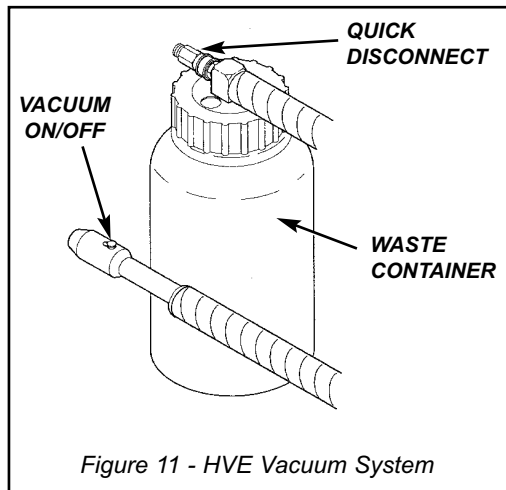

Figure 11 - HVE Vacuum System
- 8. AA-21 HIGH VOLUME EVACUATOR ASSEMBLY** - The HVE assembly is an air powered, self contained oral evacuator system. It is supplied with a plastic waste container and a single high velocity hose. (Fig. 11)